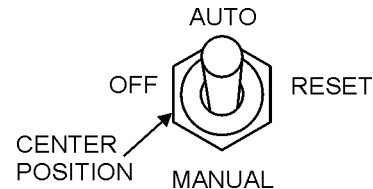

Figure 41. Off/Manual Auto Switch (OFF)
7. Place the Off/Manual/Auto Switch (Figure 41) in the "OFF/RESET" position